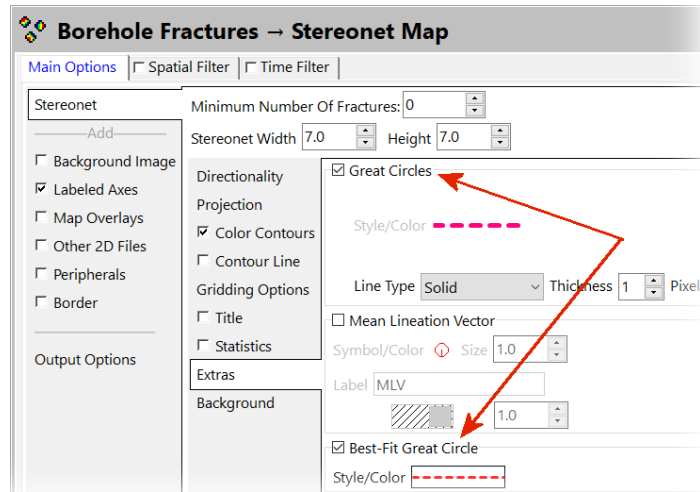

Figure 15
- To produce a meaningful map of stereonet depicting the orientations of fractures within each borehole, you might want to eliminate all but the most salient features. In this example (Figure 15), we're showing all of the fractures as Great Circles and a Best-Fit Great Circle as a thick, dashed red polyline.